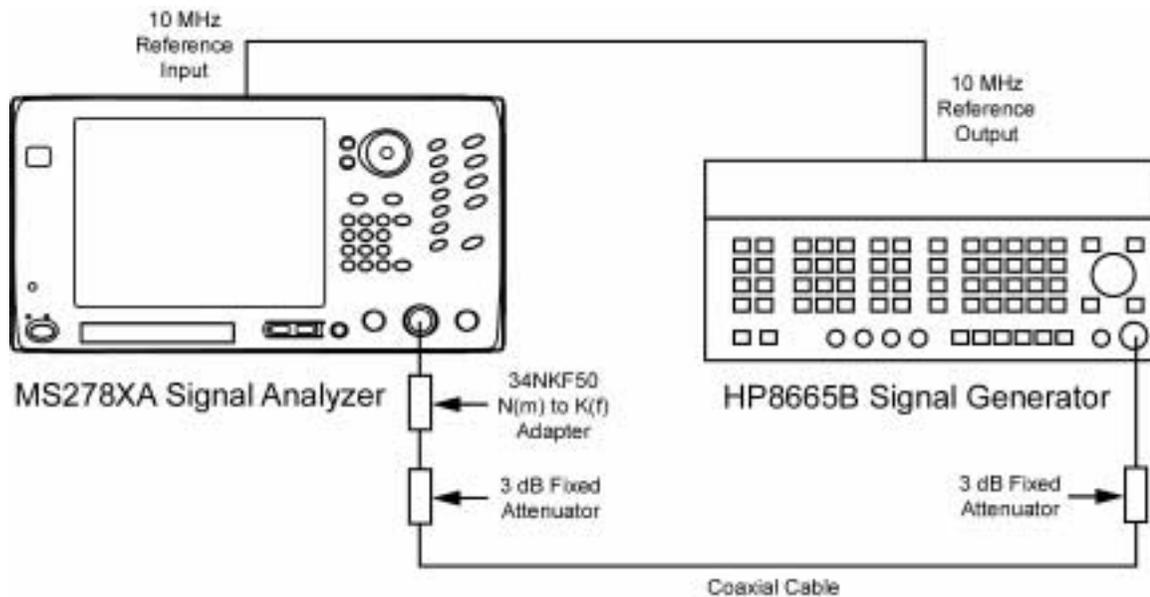

Figure 3-12. Equipment Setup for Input-related Spurious Response Test
- Step 1.** Set up the instruments as shown in Figure 3-12.